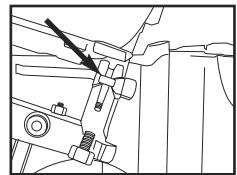

Figure 1
1. **Open the canister:** Pull down door latch and swing door/ canister cover outward. (See Figure 1)
3. Release locking button. (See Figure 1)